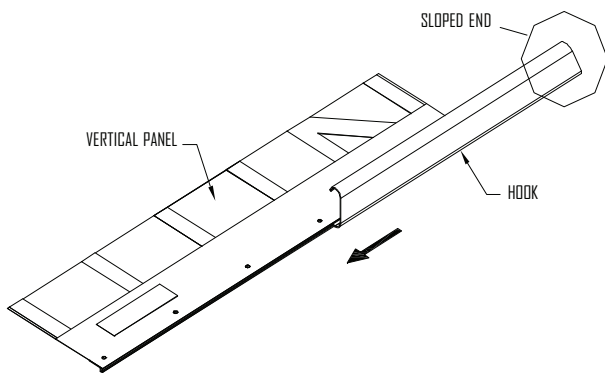

FIG.20
b. Insert hook into retaining track (Fig. 20) until bottom end of hook is flush with bottom edge of vertical panel.